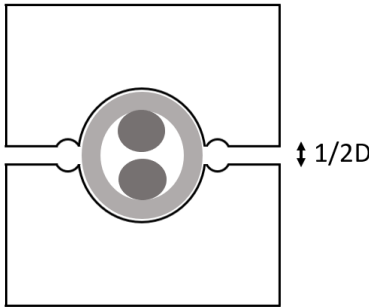

Figure 5
1. **stage:** Press the loop/thimble side up to $\frac{1}{2}$ the rope diameter - the jaws are still open up to $\frac{1}{2}$ the rope diameter (see Fig. 5). Carry out this process over the entire length of the ferrule, whereby the crimped segments must always overlap by at least 2 mm. If the ferrule no longer fits well between the jaws during the next adjacent crimping step, tap on the side of the ferrule with a hammer until it fits back into the crimping tool. Before each crimping process, check that the ferrule is correctly positioned between the jaws.
2. **stage:** Repeat the process on the loop/thimble side by pressing up to $\frac{1}{2}$ the rope diameter - the jaws are still open up to $\frac{1}{2}$ the rope diameter (see Fig. 5).